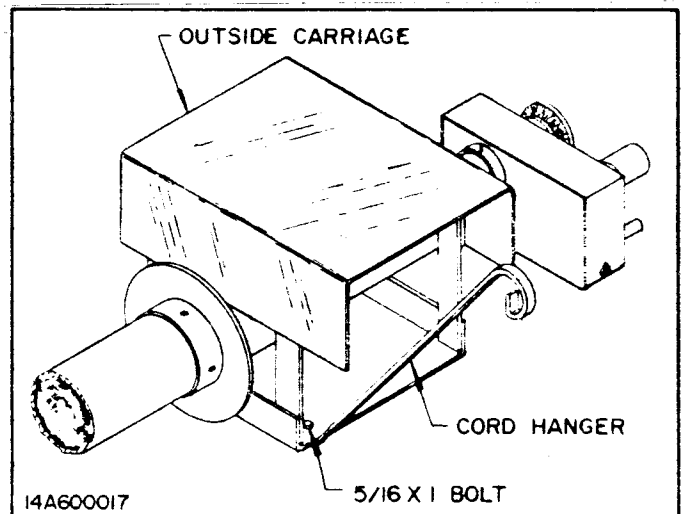

FIG. 7 -
2. Bolt short cord hanger to bottom plate of outside white carriage. Stirway II only. See Fig. 7. Use 5/16" x 1" bolt.